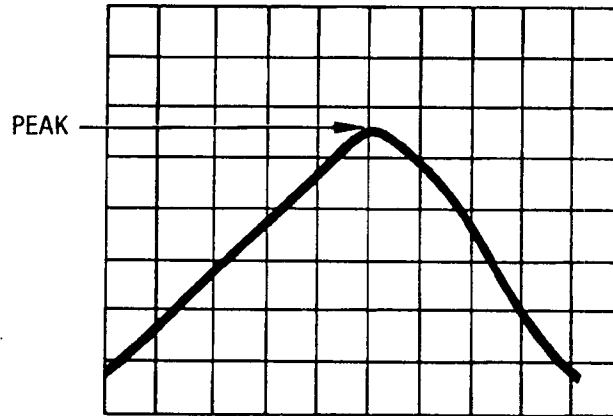

Figure 5-23. Optimum YTM Response
- c. YTM tuning is adjusted by centering the YTM response peak on the oscilloscope display (see figure 5-23). Adjustments are made at the highest and lowest frequency in each band. In addition, band 3 and band 4 are adjusted at "breakpoints" to correct for tracking deviation at the higher frequencies.